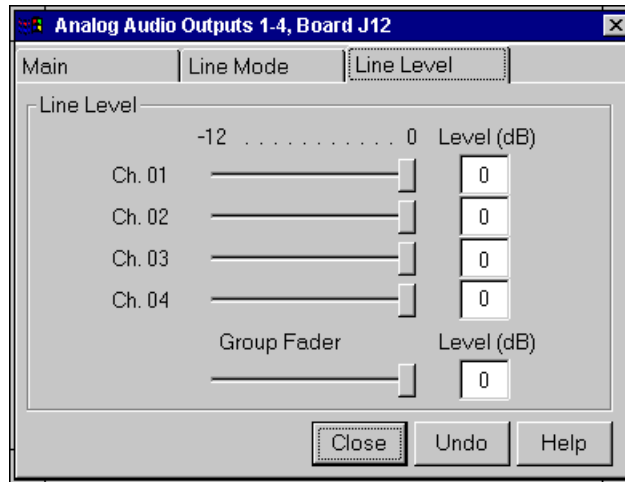

Figure 38. Analog Audio Outputs dialog box, Line Level tab
1. In the Analog Audio Output dialog box, click the Line Level tab (Figure 38).